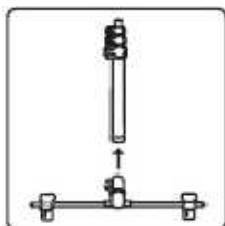

fig.3
1. Insert the pole into the opening of the trouser stretcher. (fig.3).